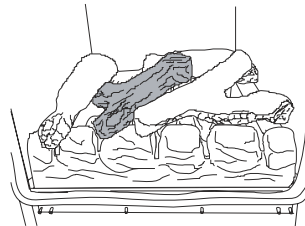

Figure 15
5. Proceed with placing the **small 'Y' log**, bridging between the front and rear ceramic and behind the front 'Y' log, as in **Figure 15**.